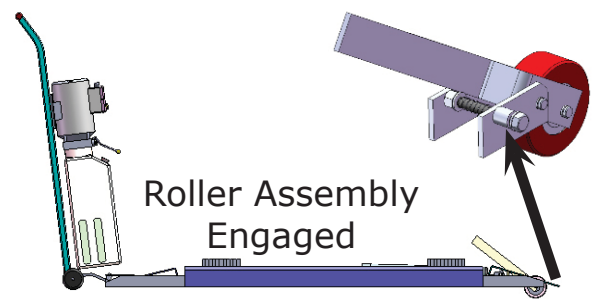

Fig. 17
3. To raise and lock the lift: Press the button up till the lift is raised to the required height and the locks are in engaged (**See Fig. 17**), then push release handle of the power unit, the lift would be locked.